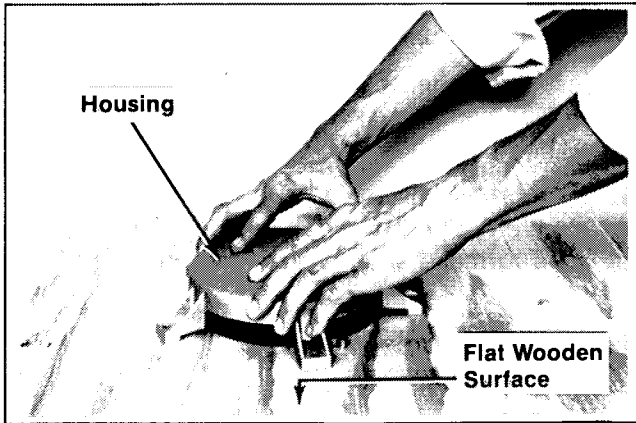

Figure 7-18. Removing Spring From Housing.
- Lift the housing and rap it firmly against the wooden surface. Repeat this procedure until the spring is released from the spring pocket in housing. Refer to Figure 7-18.